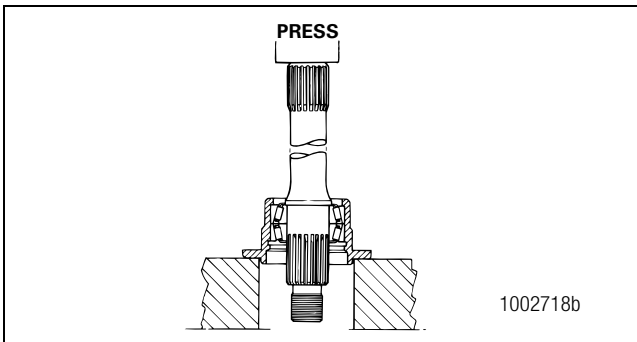

Figure 3.13
- A. Place the thru-shaft and the output bearing cage in a press. Figure 3.13.